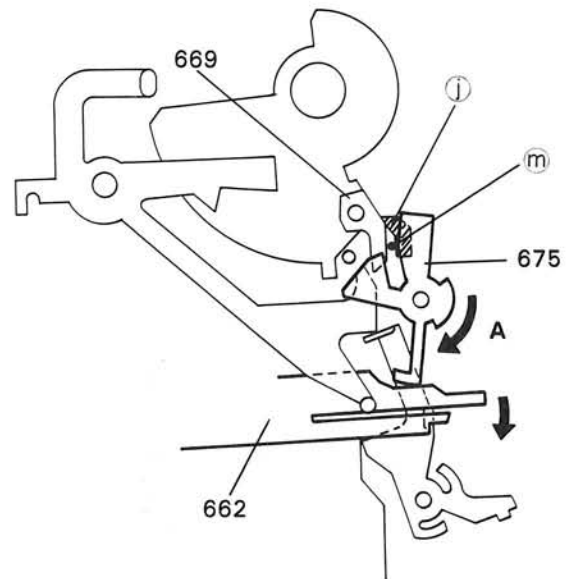

Fig. 12
At this time, the cam (669) on the tonearm feed cam (664) enters the situation shown in Fig. 12 by the boss (①).